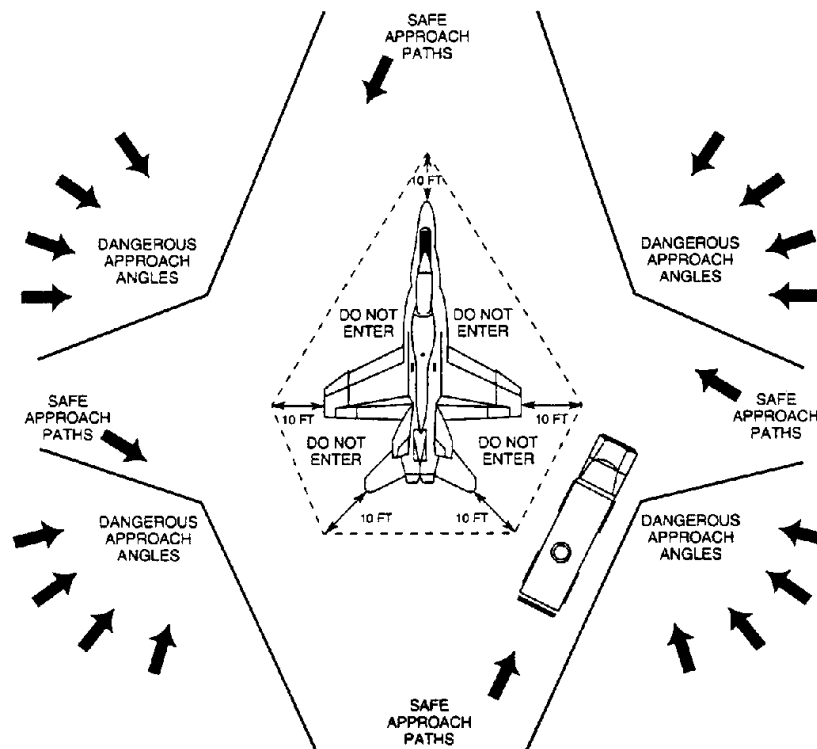

Figure 5-10.—Alternate refueler approach paths.
made except at the end of the parking line. Driving between aircraft parked in line should be avoided; however, preferred approach is not always possible. Figure 5-10 shows acceptable alternate methods when
- Be driven in the area described by straight line projections connecting points 10 feet from an aircraft's extremities (see figures 5-10, 5-11, and 5-12).